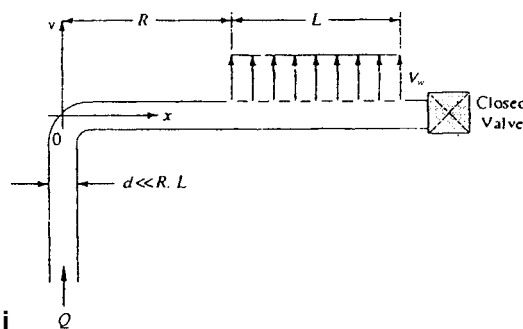

Fig. P3.125
**3.125** A liquid of density  $\rho$  flows through a  $90^\circ$  bend as in Fig. P3.125 and issues vertically from a uniformly porous section of length  $L$ . Neglecting weight, find a result for the support torque  $M$  required at point O.